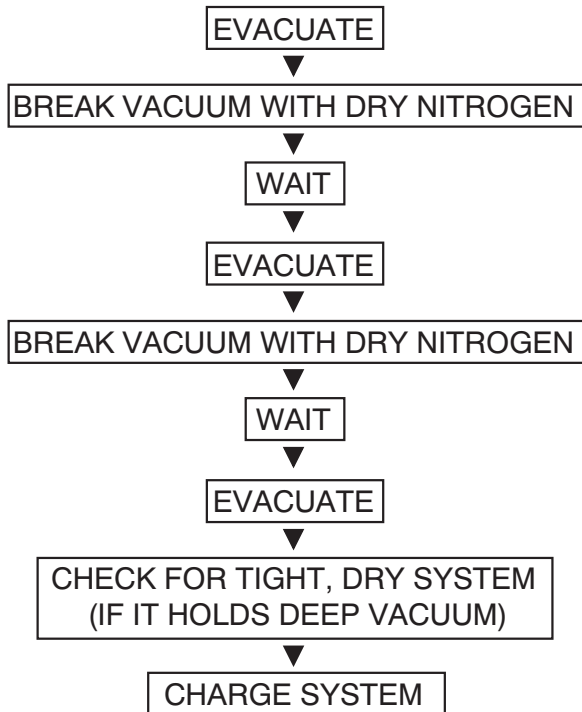

Figure 28 – Triple Evacuation Method
The triple evacuation method should be used when vacuum pump is only capable of pumping down to 28 in. of mercury vacuum and system does not contain any liquid water. Refer to Figure 28 and proceed as follows:
5. Repeat this procedure as indicated in Figure 28. System will then be free of any contaminants and water vapor.